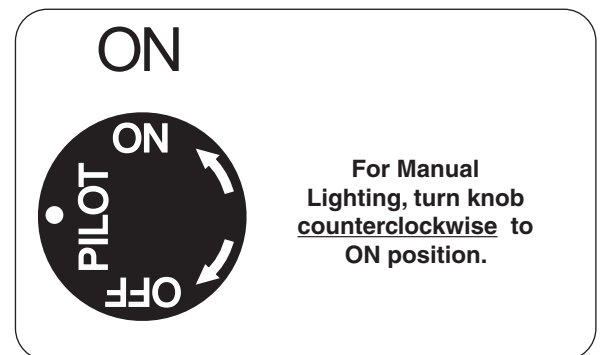

Fig. 35-3 Control knob detail (ON)
2. Turn the gas control knob counterclockwise to **ON** (Fig. 35-3) to ignite the burner. The valve will open and the burner will light.